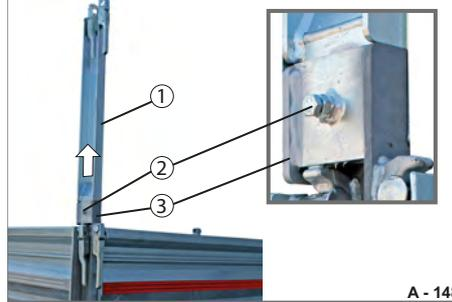

Fig. 154 Disassemble corner posts
- ▶ Unscrew the hexagon screw (Fig. 154/2).
- ▶ Pull the corner post (Fig. 154/1) of the steel grate body out of the corner post (Fig. 154/3) of the base platform gate.